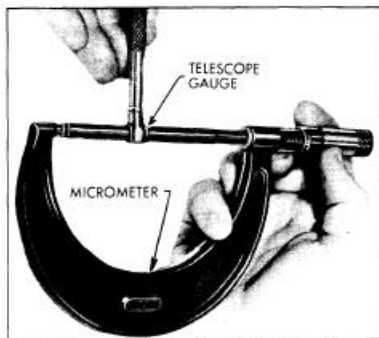

Figure 2-33—Measuring Telescope Gauge
2. Measure the telescope gauge. See Figure 2-33.